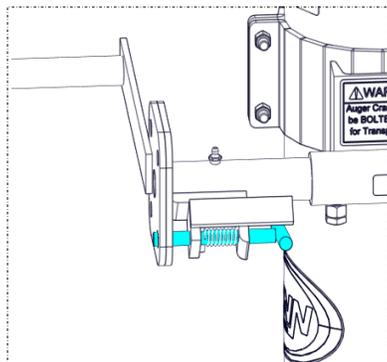

Figure 4.17
- 1) Pull back the discharge auger lock handle, and secure it into the open position (Figure 4.17).
- 3) Set the auger lock handle to secure the auger in place (Figure 4.17).